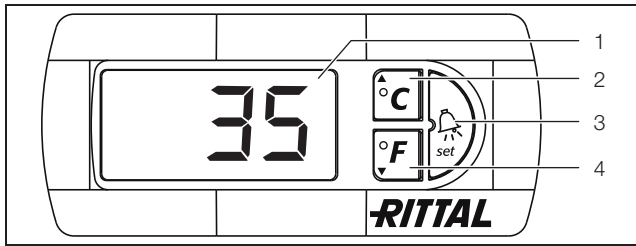

Fig. 16: Display and system analysis of the e-Comfort controller
The air/water heat exchanger operates automatically, i.e. after switching on the power supply, the fan (see fig. 2, item 3) will run continuously and permanently circulate the internal enclosure air. The fan and the magnetic valve are controlled by the e-Comfort controller. The e-Comfort controller has a 7-segment display (fig. 16, item 1). After switching on the power supply, the current software version initially appears on this display for approx. 2 seconds. In regular operation, the display shows both the temperature (in degrees Celsius or Fahrenheit – users may switch between the two) and any error messages.
The unit is programmed using buttons 2 – 4 (fig. 16). The relevant parameters also appear in the display.
- Simultaneously press buttons 2 (°C) and 3 ("Set") (fig. 16) for at least 5 seconds.
Using buttons 2, 3 and 4 (fig. 16) you can change the parameters within the preset ranges (min. value, max. value).